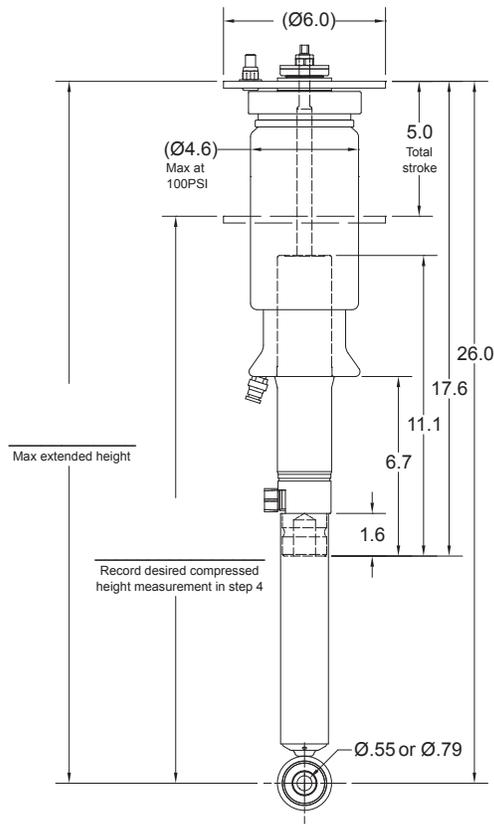

fig. 5
4. Measure the desired drop height at the mounting points; lower bushing or clevis bolt and top of upper mounting bracket as shown in figure 5 (page 6). Record this height for later use in figure 5.